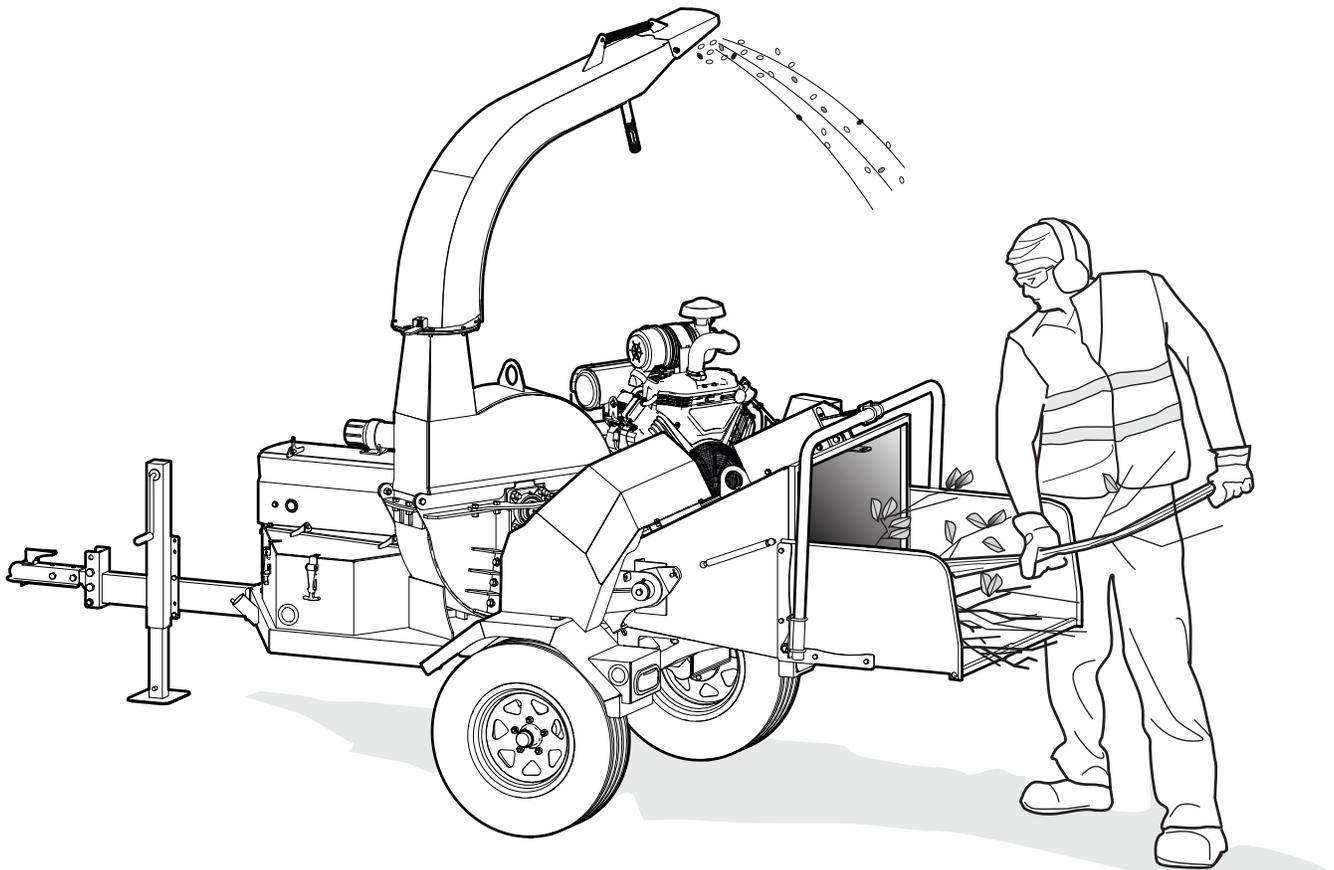

Figure 30—Chip wood
6. Stand beside the feed table and slowly put material (branches and brush) into the chipper hopper until it engages with the roller feed. Do not force material into the machine. The roller feed pulls the material into the machine. For more information, see *Figure 30 on page 45*.